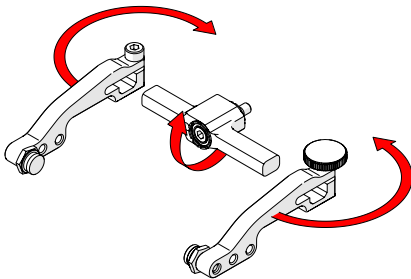

Fig. 148 - Flip yoke and reverse arms
3. Flip the yoke 180° and reverse the probe holder arms (Fig. 148).